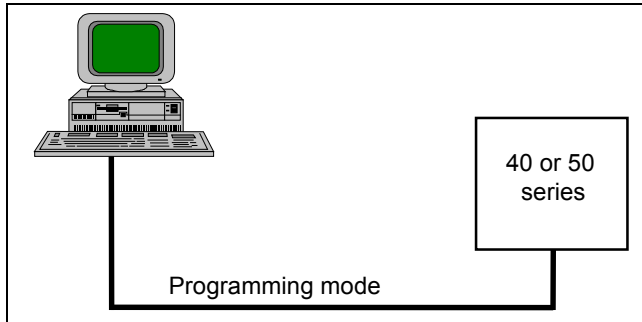

Figure 7-13 : programming protocol configuration on serial line (COM1)
- This protocol uses the serial interface (COM1) of the central unit and is reserved for devices which dispose of an ABB programming interface (see Figure 7-13).